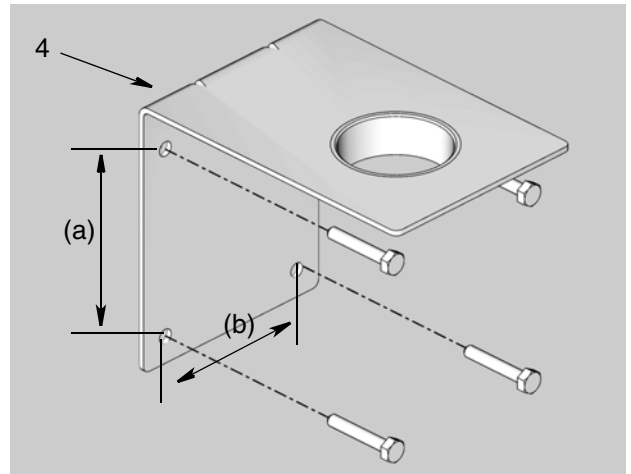

FIG. 5
1. Use the wall bracket (4) as a template and mark and drill holes in wall (FIG. 5).
2. Using 4 screws (user supplied) long enough to securely hold the wall bracket and pump to the wall, install the bracket (4) to wall (FIG. 5).